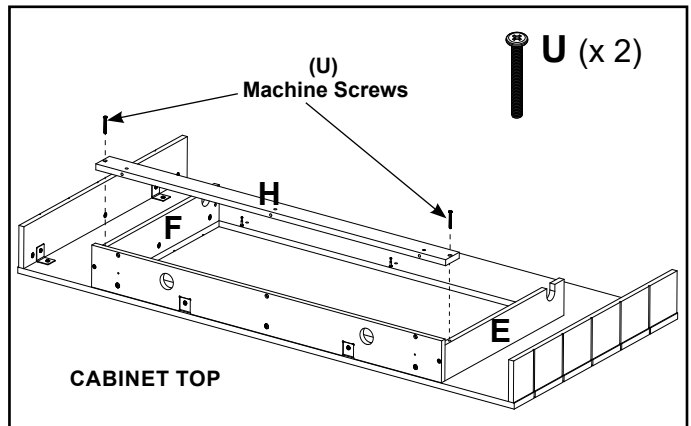

Figure 19
- Secure part "H" to parts "E" and "F" using M6 x 50 Machine Screws (U). See Figure 19.
- Align part "I" onto the three (3) Cam Pins (P) installed in part "A". See Figure 19.